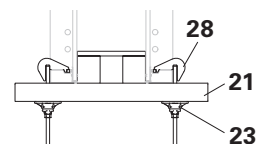

Fig. C7.03b
- Compensation Waler MAR 85 (21) with Stopend Tie (28) and Wingnut Pivot Plate (23), see Fig. C7.03b.